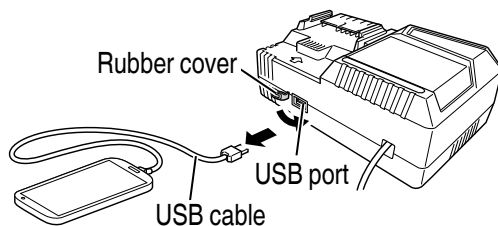

Fig. 9
- (3) When charging is completed
- Unplug the power cord from the electrical outlet. **(Fig. 9)**